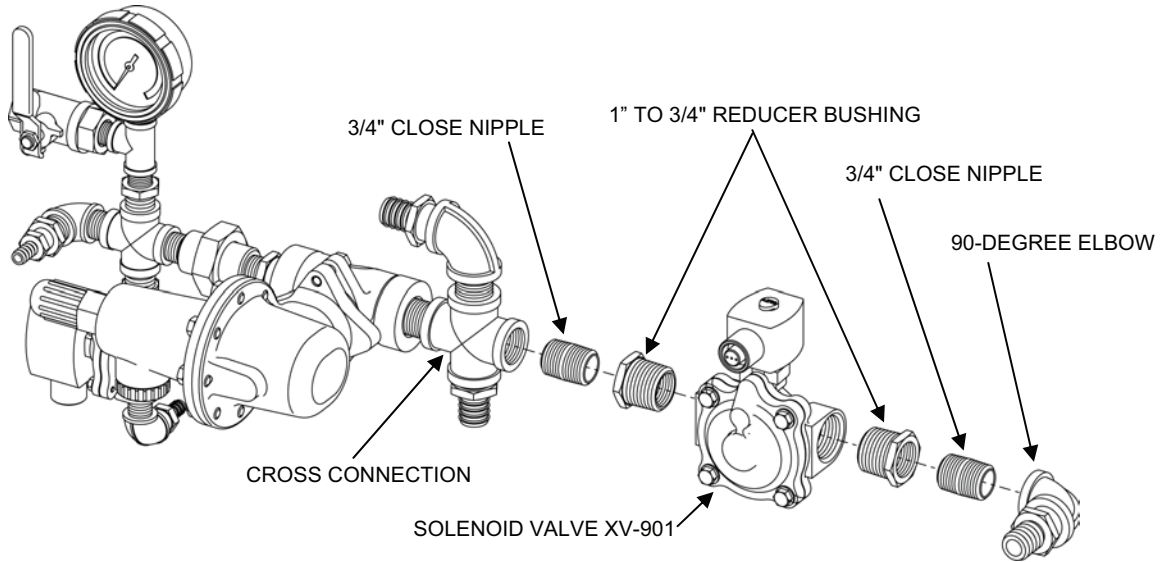

Figure 3. Solenoid Valve XV-901.
3. Remove the Solenoid Valve XV-901 from the Air System Section 3 assembly as follows (see Figure 3):
- c. Make sure that the position of the elbow matches Figure 3.
- e. Make sure that the position of Solenoid Valve XV-901 matches Figure 3.